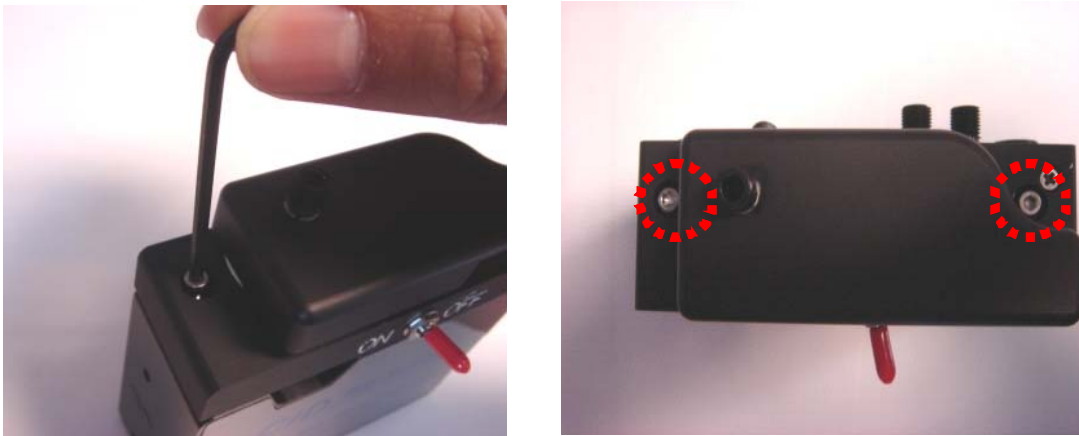

Figure 3. Tightening the screws on both ends of the leaf probe to secure the leaf probe on the spectrometer
Step 2. Tighten the screws on both end of the leaf probe to the spectrometer with the attached Allen wrench (Fig. 3).